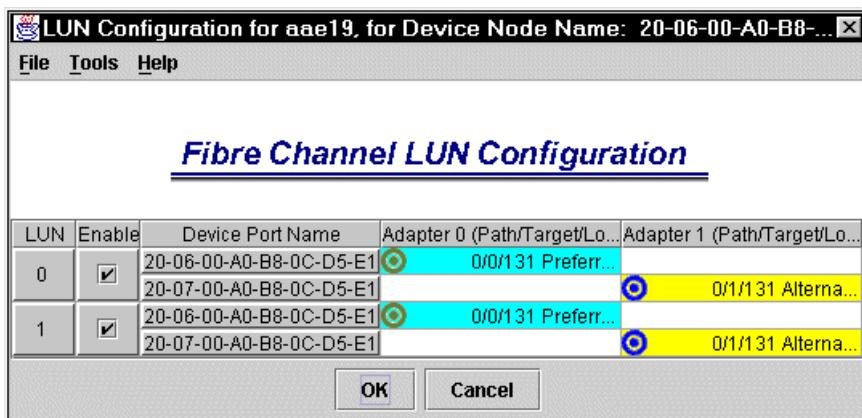

Figure 4-7 FASST MSJ LUN configuration
8. To enable load balancing, highlight the storage subsystem represented by the node name and click **LUNs-> Configure LUNs** from the menu. Then the LUN configuration window appears as shown in Figure 4-7.